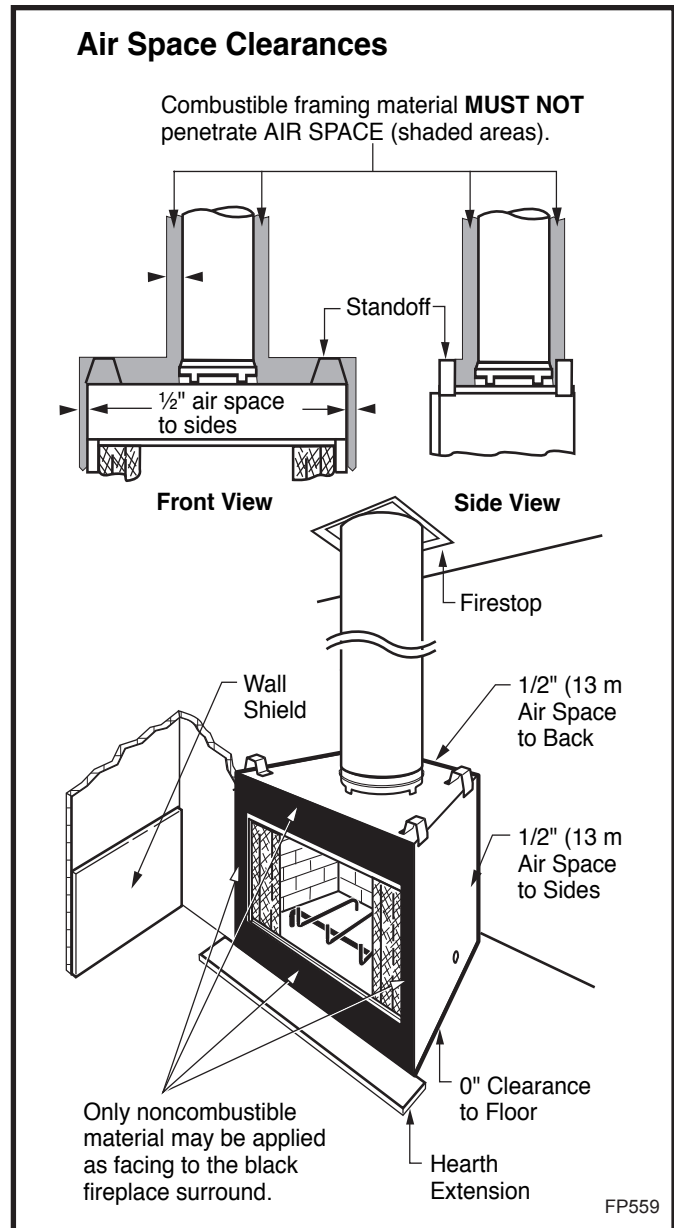
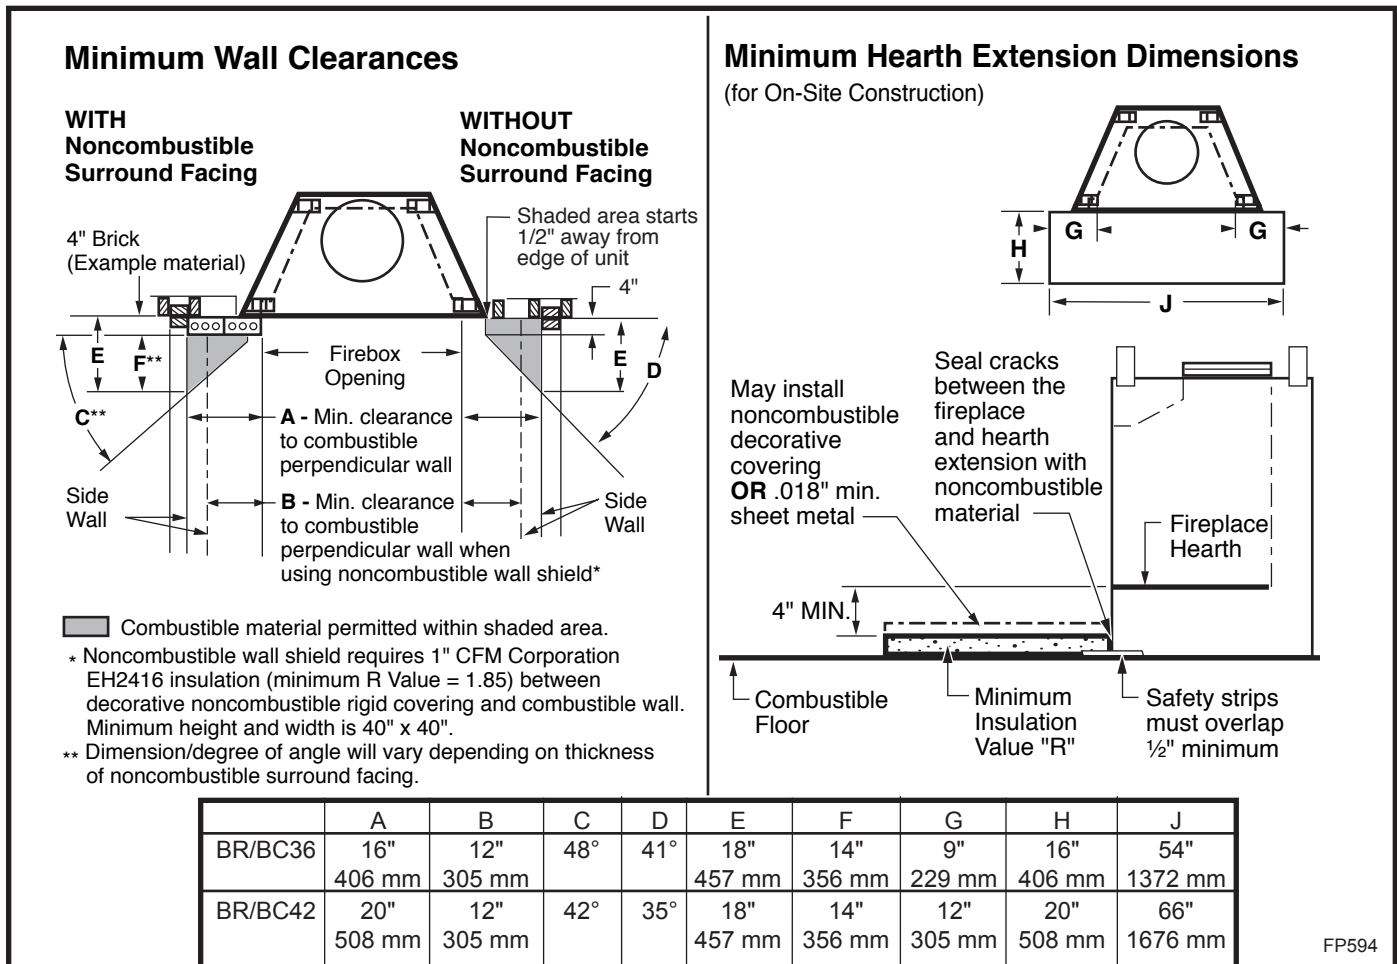

Fig. 20 Minimum clearances to combustibles.
Fig. 23 Combustible side wall protection and hearth extension dimensions.
**CAUTION:** All joints between the finished wall and the fireplace surround (top/sides) must be sealed with noncombustible material to prevent cold air leakage into the room. Only noncombustible material may be applied to the facing of the fireplace surround. (Black painted area) (Fig. 20)
Often a decorative surround or vertical portion of the mantel is desired. If this is constructed of any combustible material it must be within the safe zone indicated in Figure 23.
Adjacent combustible side walls that are within minimum dimensions shown in Figure 23 of the fireplace opening must be protected with MHSC Wall Shield Model SP40 or a specifically built wall shield described in Figure 20.
The special wall shield design described in Figure 20 is an alternate method of adding protection to side walls and can be used in place of the SP40 with the same wall clearances specified for the SP40. Rt must =1.85 minimum.
A hearth extension is required to protect a combustible floor in front of the fireplace. Refer to Figure 23 for minimum dimensions and mounting detail.
The hearth extension described in Figure 23 must be a durable noncombustible material with a minimum (total) Rt value of 1.09; see Figure 24 for examples. The overall height (above a combustible floor), depth and width must be as indicated, with the extension centered to the fireplace opening.
The top of insulation must be covered with a noncombustible decorative covering or a piece of .018" minimum sheet metal, to protect hearth extension material. (Fig. 23)
Secure the hearth extension to the floor to prevent shifting, using trim molding or other similar means at three (3) outer edges. Seal crack between the fireplace hearth and hearth extension with a noncombustible material. (Figs. 23 and 25)
**WARNING: HEARTH EXTENSION MUST BE INSTALLED IN ACCORDANCE WITH FIGURE 23 AND MUST NOT COVER THE BOTTOM FRONT OPENING OF THE CIRCULATING MODEL.**